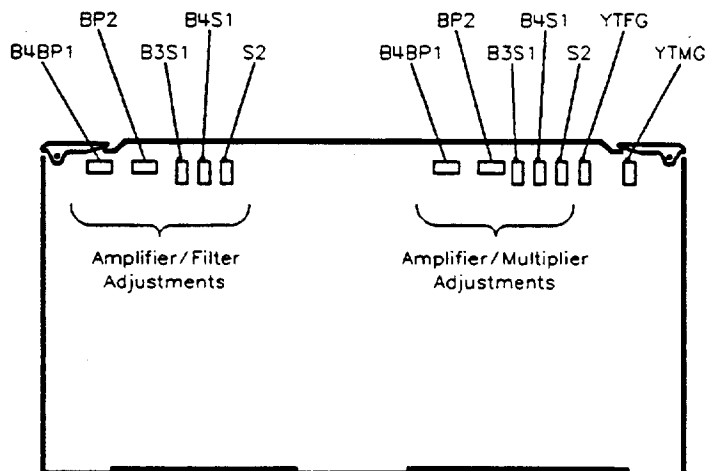

Figure 3-19. A12 Assembly Potentiometer Locations
19. Set A12R108 B3S1 fully clockwise (see Figure 3-19).
22. Adjust A12R108 B3S1 (see Figure 3-19) for maximum power over the rest of the sweep (3 to 10 divisions).